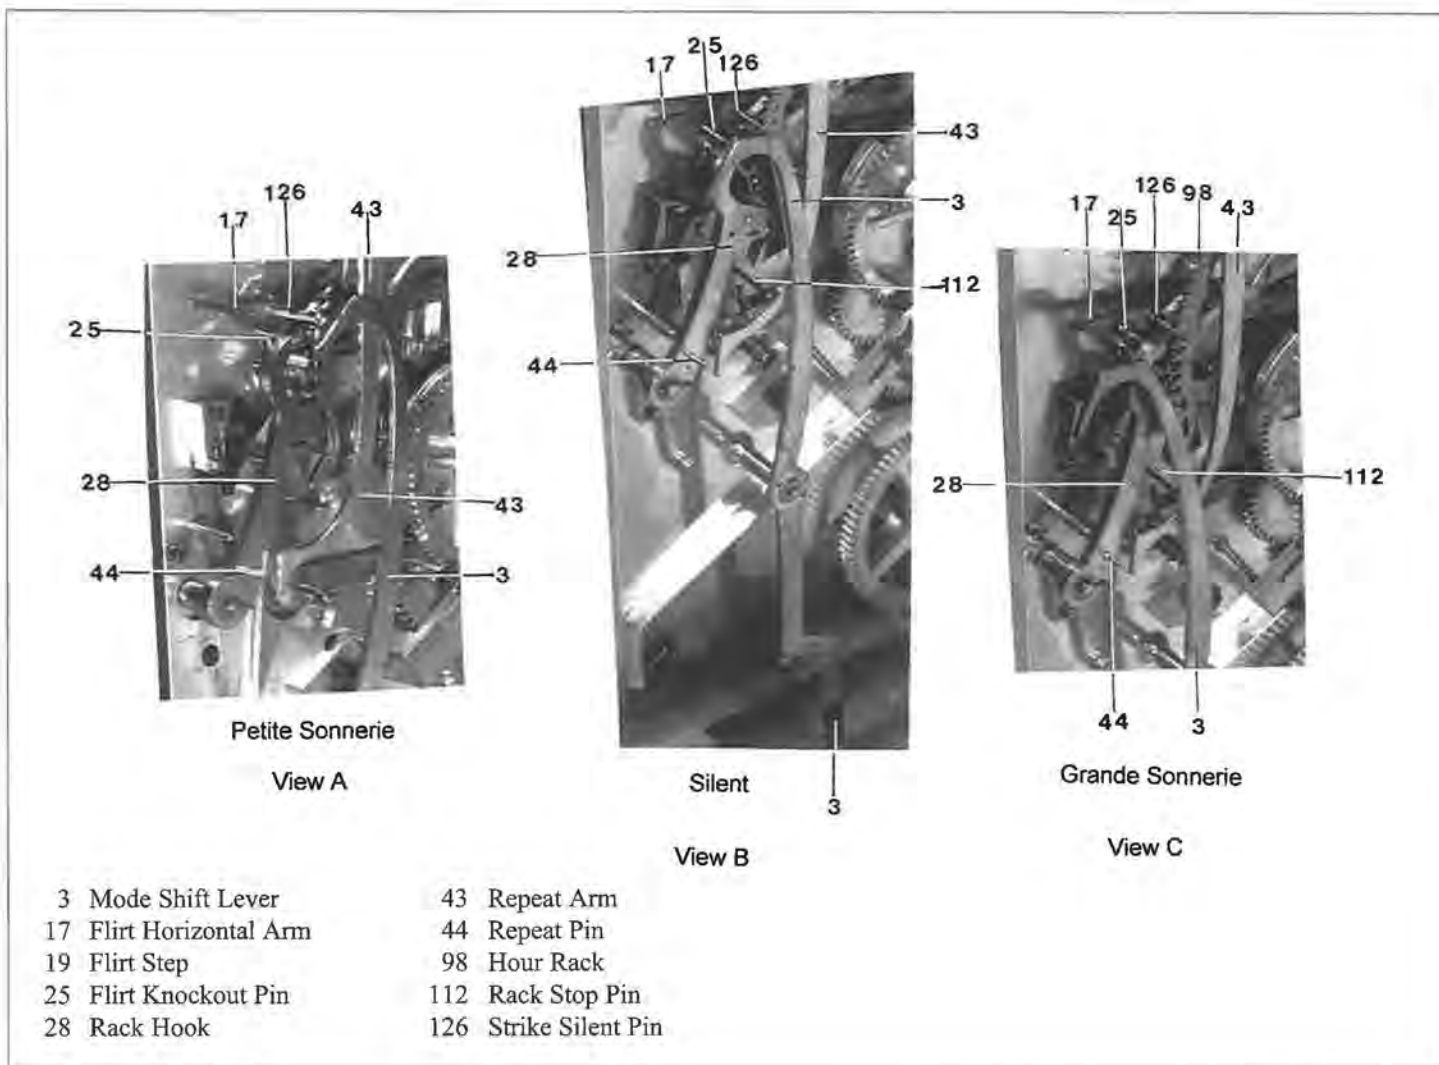

Figure 44.2. Mode Shift Components
Petite Sonnerie Mode (Figure 44.2, View A)
In petite sonnerie mode (Figure 44.2, View A), the mode shift lever (3) is clear of all other components. Therefore, the hour and quarter strike can operate as controlled by their rack and snail components.
Grande Sonnerie Mode (Figure 44.2, View C, Figures 44.3, and 44.4)
Silent Mode (Figure 44.2, View B)